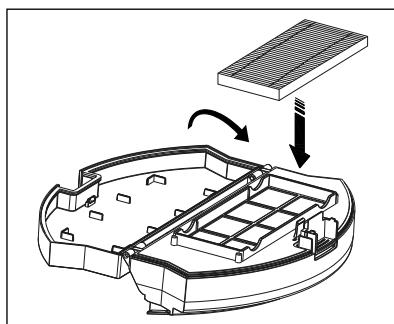

Fig. 13
- 8) Place the EPA filter 7 back in the compartment, and close the dust container 16 (see Fig. 13).